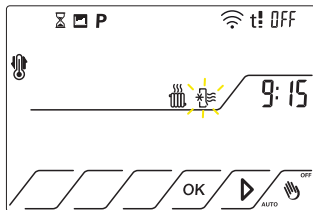

Fig.14
4.2.3 Press  up to position on  that it will flash and OFF appears. Fig.14